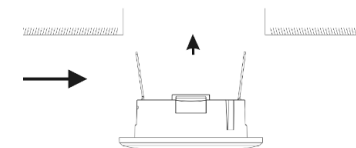

Fig. 3
- Lift both spring clips on the sides of the fitting and push into the ceiling (see Fig. 3)